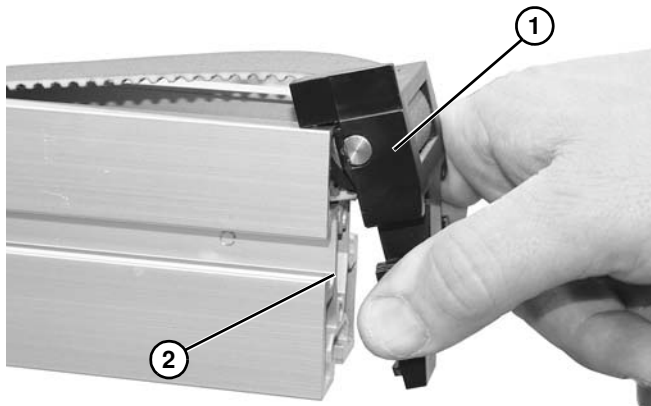

Figure 14
3. Remove the end cap (**Figure 14, item 1**) from the conveyor (**Figure 14, item 2**) on both ends.